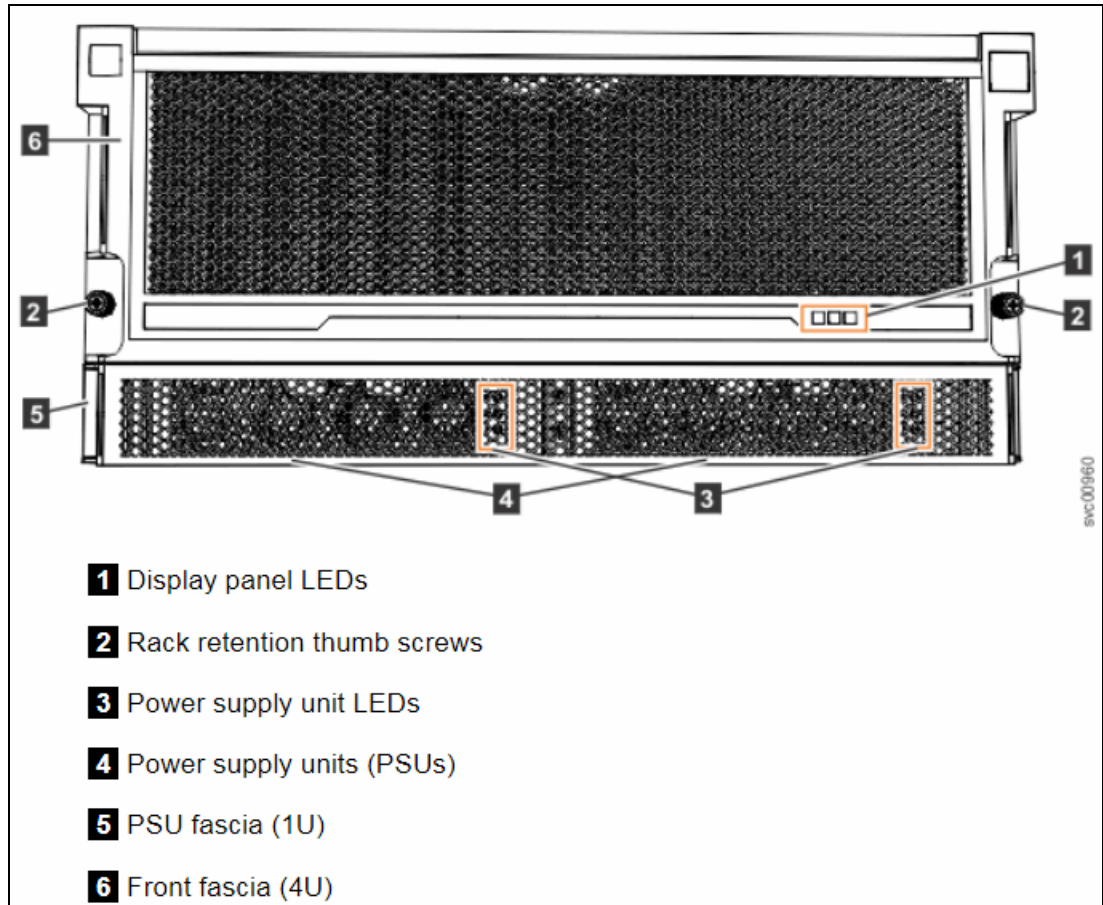

Figure 6-41 Model A9F expansion enclosure front view
The model A9F expansion enclosure has two power supply units that are accessible from the front of the enclosure (4 in Figure 6-41 on page 199). The power supply units are covered by the 1U fascia panel 5. Each power supply unit has a power supply connector and power cord, which are accessible from the back of the expansion enclosure. Power is provided by connecting the power cords to the power source and, if necessary, switching on the power source. The expansion enclosure does not have a power button.
- b. On the front of the enclosure, the indicators on the front display panel and each power supply unit (**1** and **3** in Figure 6-41) are also lit when the power is connected. See FlashSystem 9100 9846-A9F expansion enclosure LEDs and indicators for information about the status that is provided by the indicators.